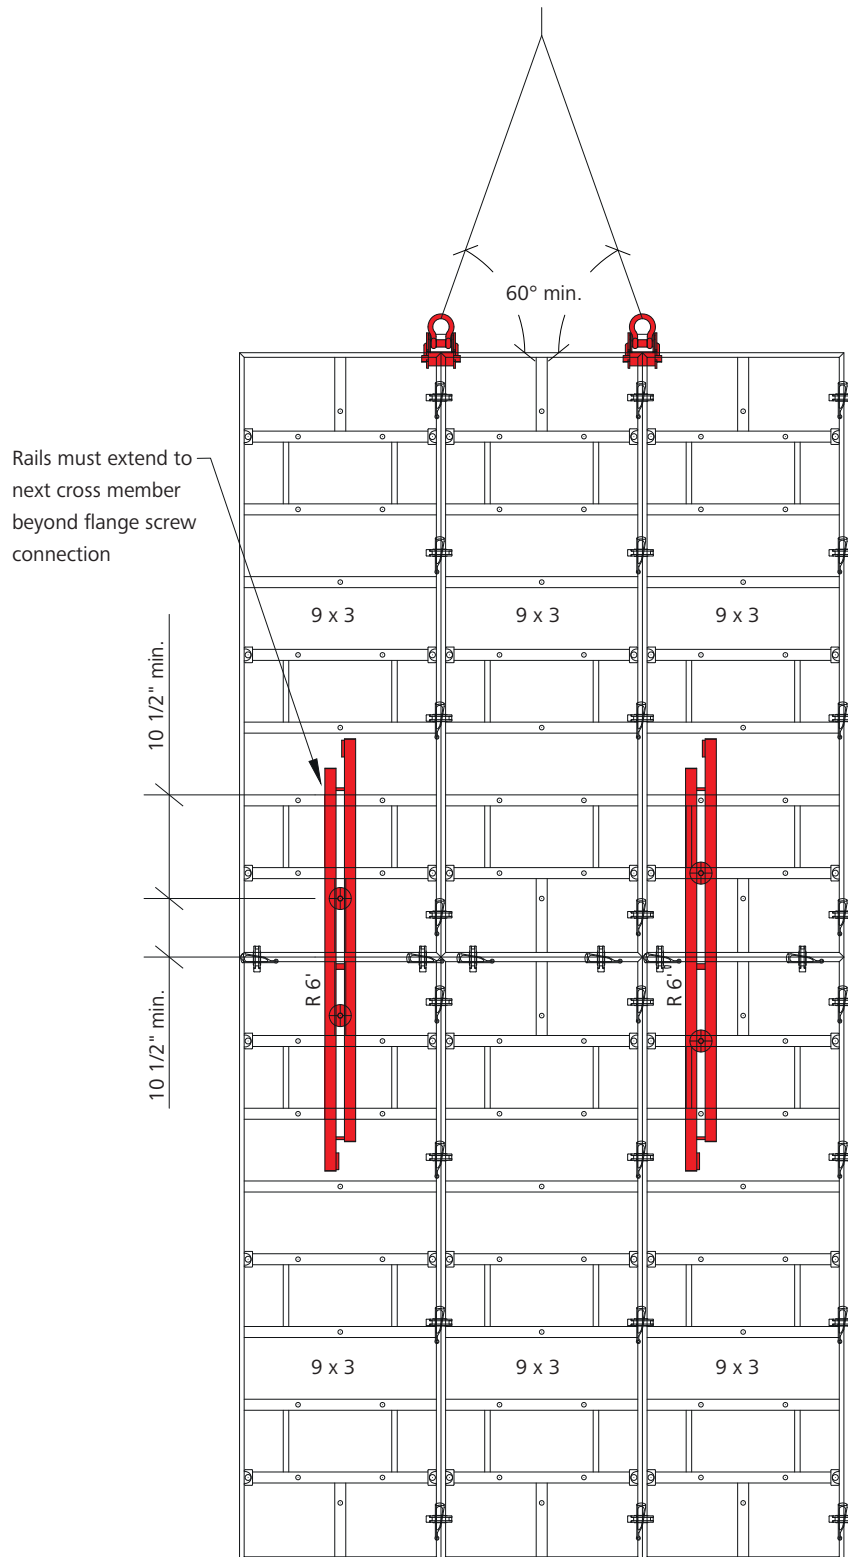

Fig. 47.1 Typical gang form
4. Gangs over 13' high require 6' rails or longer. Flange screw connections must be at least 10 1/2" away from the panel joint, and rails must extend to the next cross member beyond the flange screw connection (Fig. 47.1). Horizontal panels < 3' wide may only be located at the top or bottom of the gang.